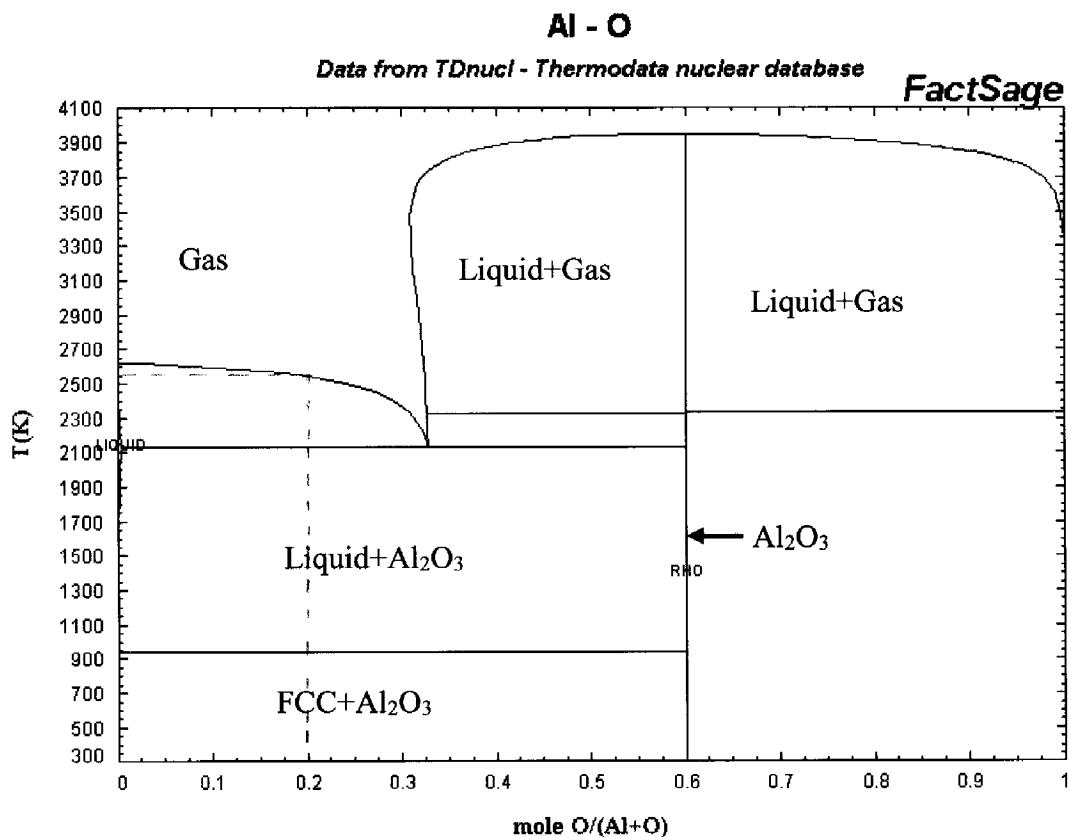

Figure 1 Binary Al-O phase diagram
1. Answer following questions based on Figure 1, which shows the binary Al-O phase diagram.